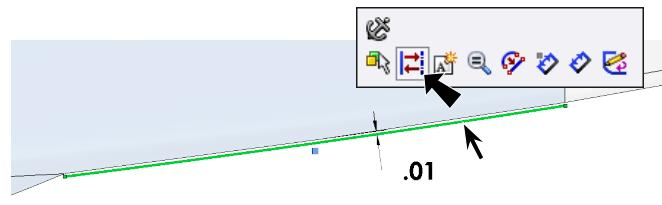

Fig. 6
Step 6. Click the **offset spline** and click **Construction Geometry**  on Context toolbar, **Fig. 6**.
Step 7. Click **Centerline**  (S) in the **Line flyout**  on the Sketch toolbar.